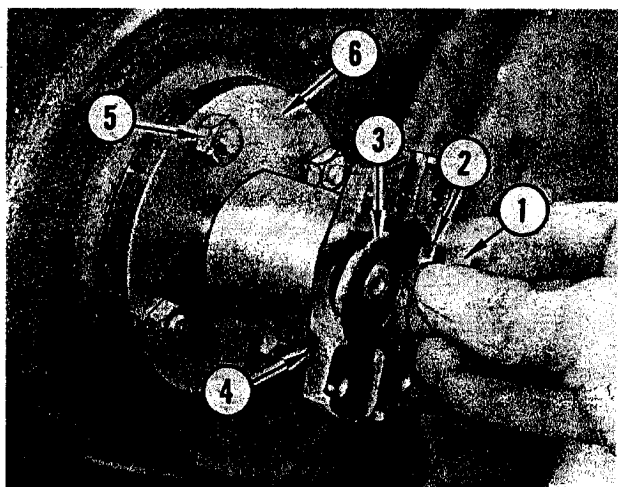

FIGURE 30. YOKE REMOVAL
Refer to Figure 30. Remove nut (1), lockwasher (2) and flatwasher (3) retaining yoke to PTO shaft and remove yoke (4) from shaft. Remove Woodruff key from shaft. Remove four capscrews and lockwashers (5) and remove seal cap (6).
Reverse the numerical order as shown in Figure 30 and 31 and the following: